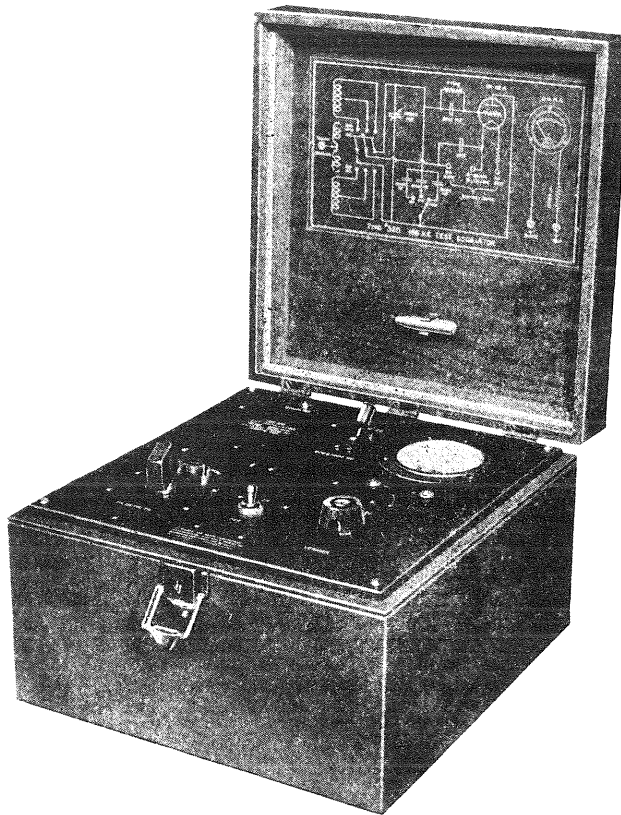

Figure 9—180 K.C. Test Oscillator
A modulated oscillator giving signals at 1,400 and 600 Kilocycles. The test oscillator shown in Figure 9 is suitable for this purpose.
1. A Test Oscillator (Driver). See Figure 9.
for doing this is indicated in Part II, Section 12. The Driver illustrated in Figure 9 may be used for this adjustment. The procedure for adjusting the trimming condensers follows: